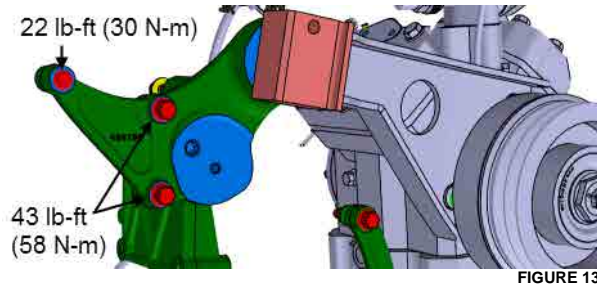

FIGURE 13
21. Tighten 3 bolts loosened at step 18. For proper torque, refer to FIGURE 13.